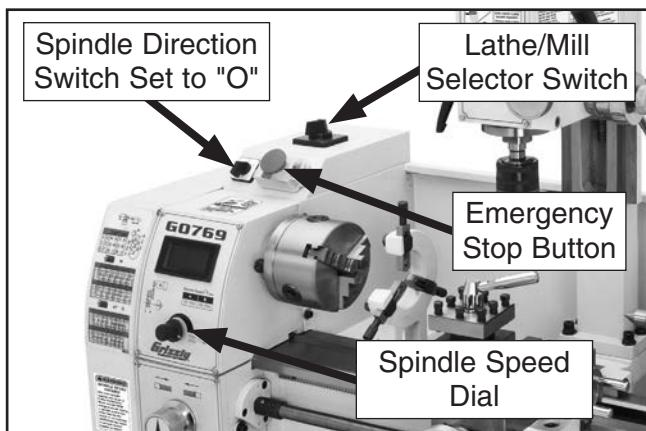

Figure 19. Headstock controls (G0769 shown).
2. Press Emergency Stop button cover (see **Figure 19**) to prevent unexpected start up.
G0769 Only: Set lathe/mill selector switch to "0" (see **Figure 19** on **Page on this page**).